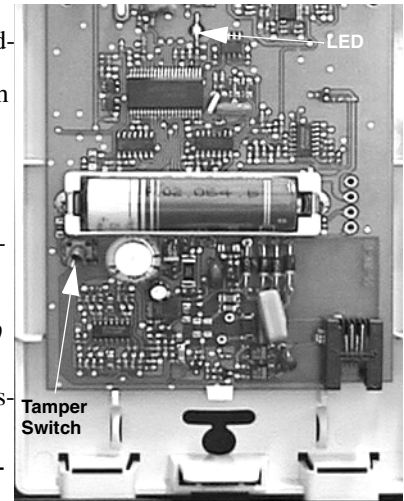

Figure 6. DTIM Tamper Switch and LED Locations
The DTIM uses a 3-2-1 tamper switch activation sequence for learning, which causes the LED to blink in a corresponding 3-2-1 sequence. You must wait for the LED to turn off after each flash sequence before releasing the tamper switch (see Figure 6).
5. Locate the DTIM tamper switch and LED (see Figure 6).